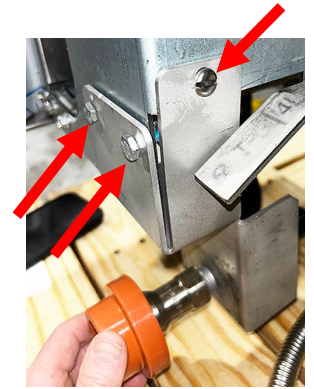

Figure 6
12. Attach the bracket with the quick disconnect, to the front of the fryer (see Figure 6) using flat head screws. Secure the screws with the three (3) ¼"-20 nuts. The photo shows hex bolts on the front. However, use the screws instead for door clearance.